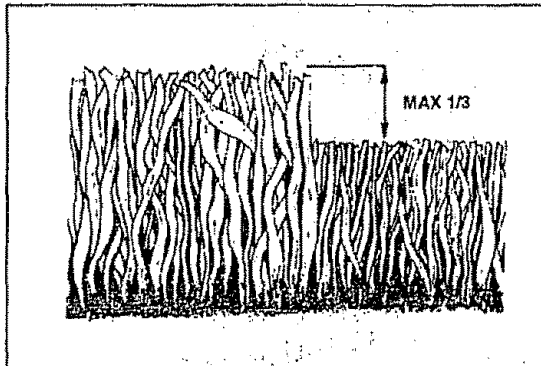

FIG. 8
- For best results, adjust the lawn mower cutting height so that the lawn mower cuts off only the top one-third of the grass blades (See Fig. 8). If the lawn is overgrown it will be necessary to raise the height of cut to reduce pushing effort and to keep from overloading the engine and leaving clumps of mulched grass. For extremely heavy mulching, reduce your width of cut, mow slowly and raise the rear of the lawn mower one wheel adjuster setting higher than the front.